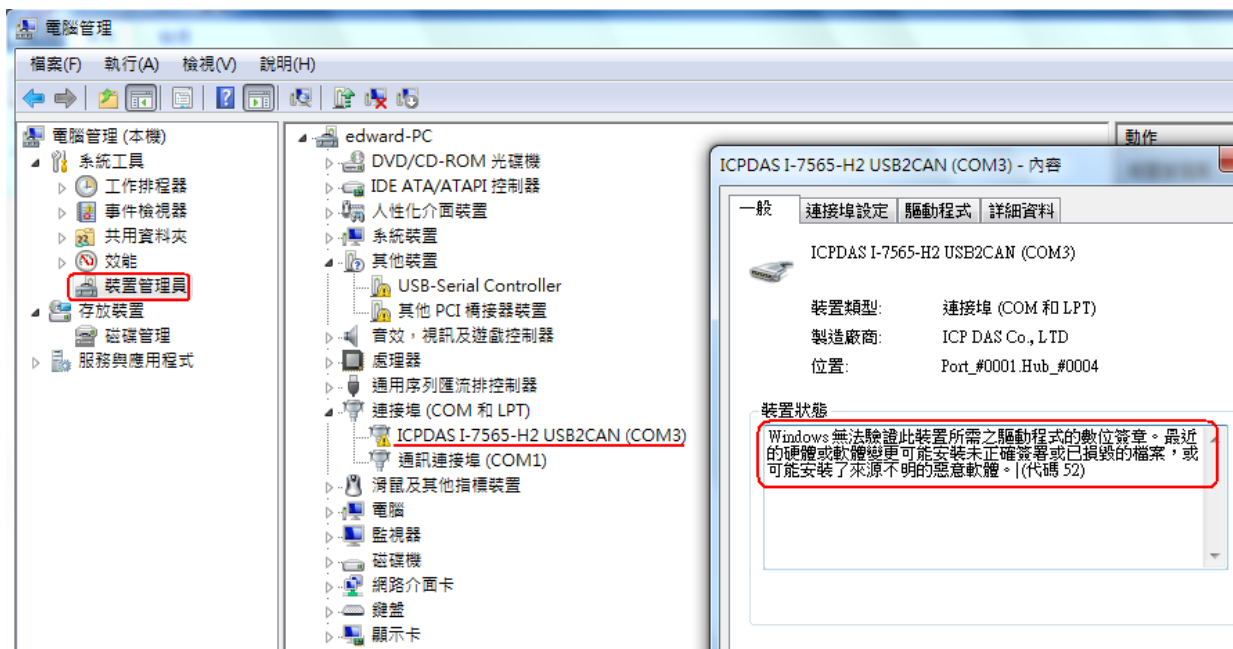
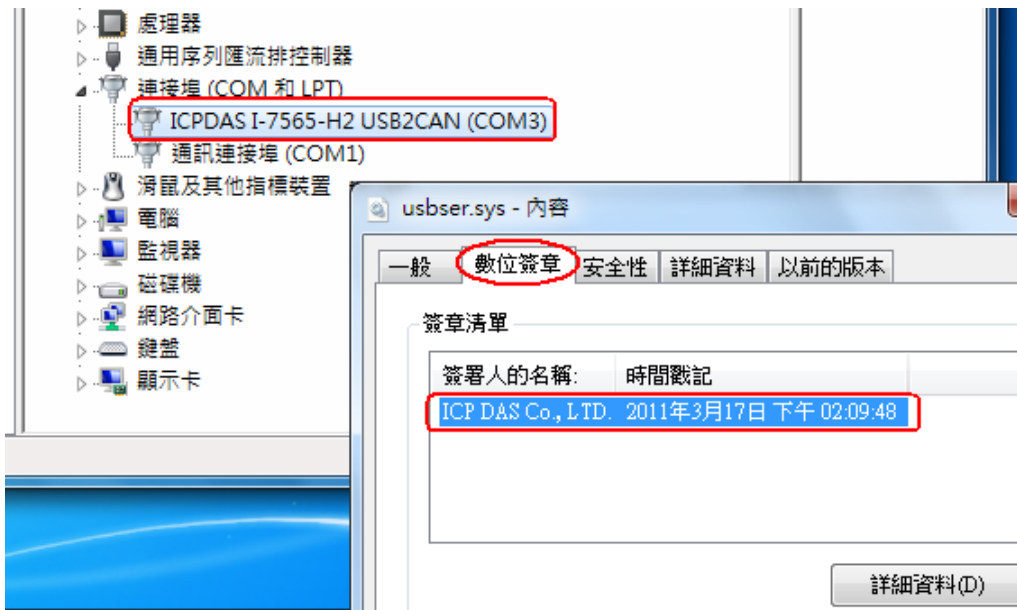

Fig 11-1 Error Without Driver Signature Certificate
Fig 11-2 With Driver Signature Certificate
(2) After driver installation successfully, if without driver signature certificate, there will be an “I” icon on I-7565-H1/H2 Virtual COM driver like Fig 11-1. If users install I-7565-H1/H2 driver version older than v1.2, then this problem will happen. Please uninstall driver first, then install the v1.2 or newer driver again. After that, the I-7565-H1/H2 driver will work well like Fig 11-2.